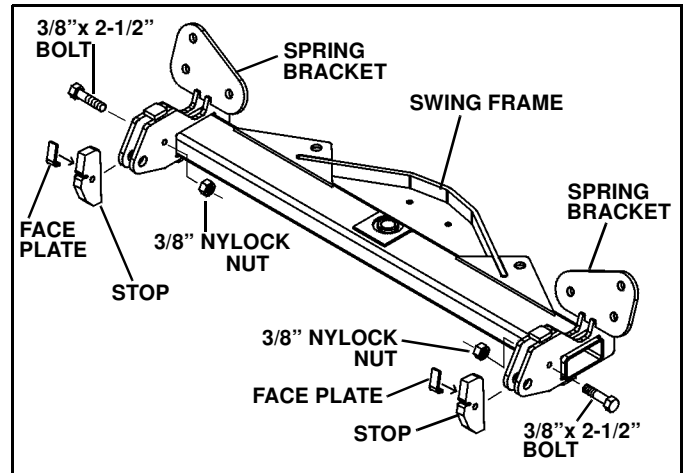
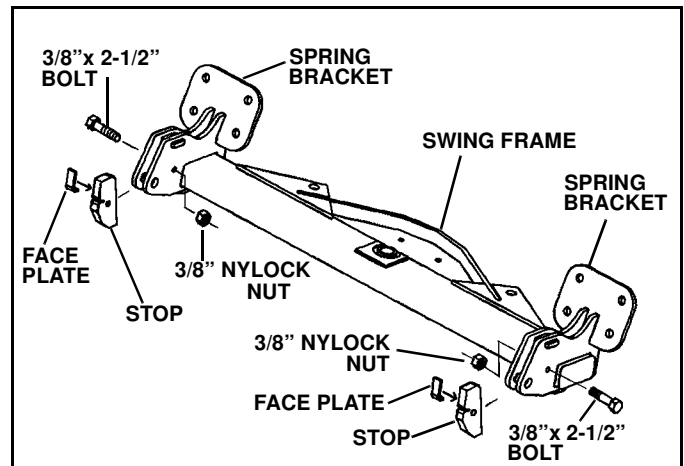

Figure 1-4a (Old Swing Frame)
Figure 1-4b (New Swing Frame - Forwards and Backwards Compatible)
2. Slide the metal face plates into the slot in the blade stops from the side. Place the stops between the lugs of the swing frame. Secure with 3/8" x 2-1/2" bolts and locking nuts. (See Figure 1-4a or Figure 1-4b.) Bolts and nuts are in the blade parts bag.